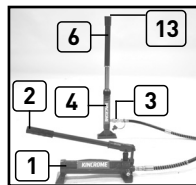

Fig.4
4. With the desired accessory fitted to the extension tube or hydraulic ram, it is now ready for use (Fig 4).